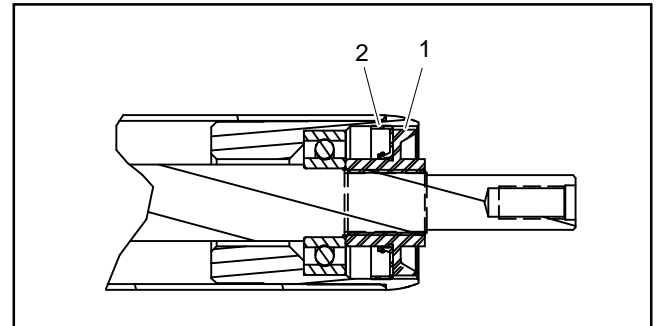

Figure 31
7. Install a nut with seal onto each end of the roller shaft. Tighten nuts until they bottom against bearings (Fig. 31). Remove nuts from roller shaft.